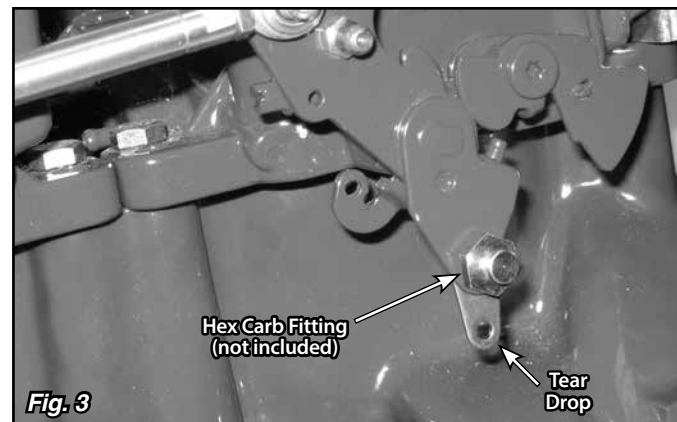

Fig. 3
Step 2: Install the tear drop onto the carburetor linkage arm. If you are using a kickdown cable, the tear drop will be held in place by the hex carb fitting and nylock nut that come with the Lokar Kickdown Kit (the hex carb fitting is not included with the Billet Aluminum Throttle Bracket & Springs). **Fig. 3** If a kickdown cable is not being used, attach the tear drop to the carburetor linkage arm using a 1/4" x 1/2" long bolt and nylock nut (not supplied).